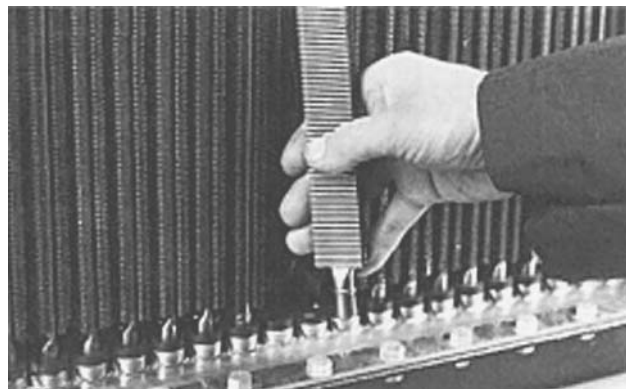

FIGURE 50-24. ANGLING TUBE DURING
3. Install washer (5, Figure 50-24) and nut (6) on each wiper shaft. Tighten the nut to **18-20 Nm (160-177 in lbs)**.
3. Pull the tube from the top seal while simultaneously twisting the tube. Angle the tube only far enough to clear the radiator. Refer to Figure 50-24. Removing the tube at an excessive angle may cause damage to the tube.